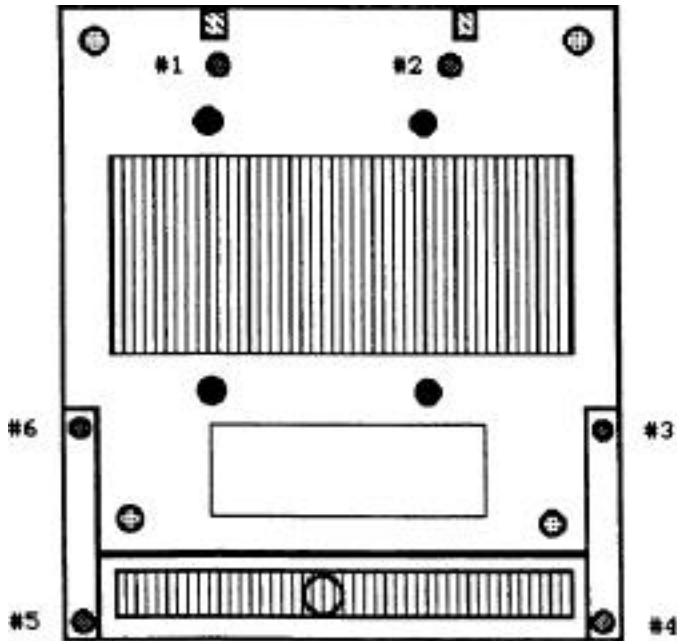

Figure 3 Apple IIc Bottom Side
Turn the computer over so that the bottom side is up and the keyboard side is down, resting on the work surface. Remove the six (6) screws that are shown in Figure 3. Note that two screws (#1 & #2) are larger than the others. Save the screws that you have removed.